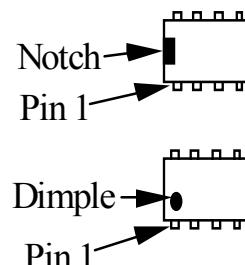

**Figure 4-9**
When you install ICs in the following steps, always straighten the leads of each IC first as shown in Figure 4-9. The two rows of pins must be straight and parallel to each other to establish the proper pin spacing for insertion into the PC board or socket.
- Straighten the leads of U2 (see Figure 4-9).
Straighten the pins of U6 (see Figure 4-9). With a large IC such as this, you can hold the IC body at both ends as you re-form each row of pins.